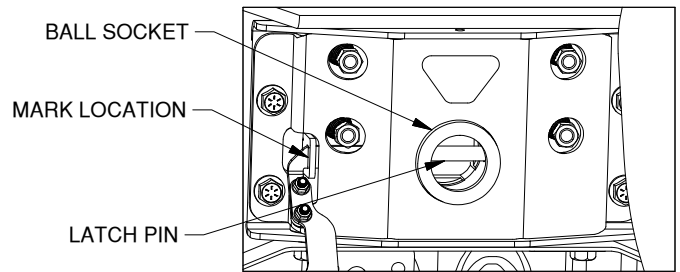

Figure F1: View under bed looking up at center section.
6. **Check latch pin engagement.** When installed properly, the latch pin should pass through both sides of the ball socket. With the ball removed, push handle toward the rear of the truck until the handle retracts and the latch pin engages. Visually inspect the ball socket and verify the latch pin has passed completely through both walls of the socket. Make a mark on the latching mechanism where indicated in Figure F1 to show where the latching mechanism should be when the pin is correctly positioned in the ball socket. Retract the pin, replace the ball, and re-engage the pin. Check the marked location on the latching mechanism. If the mark is in the same location as when the mark was made, then the latch pin has gone completely through the ball socket.